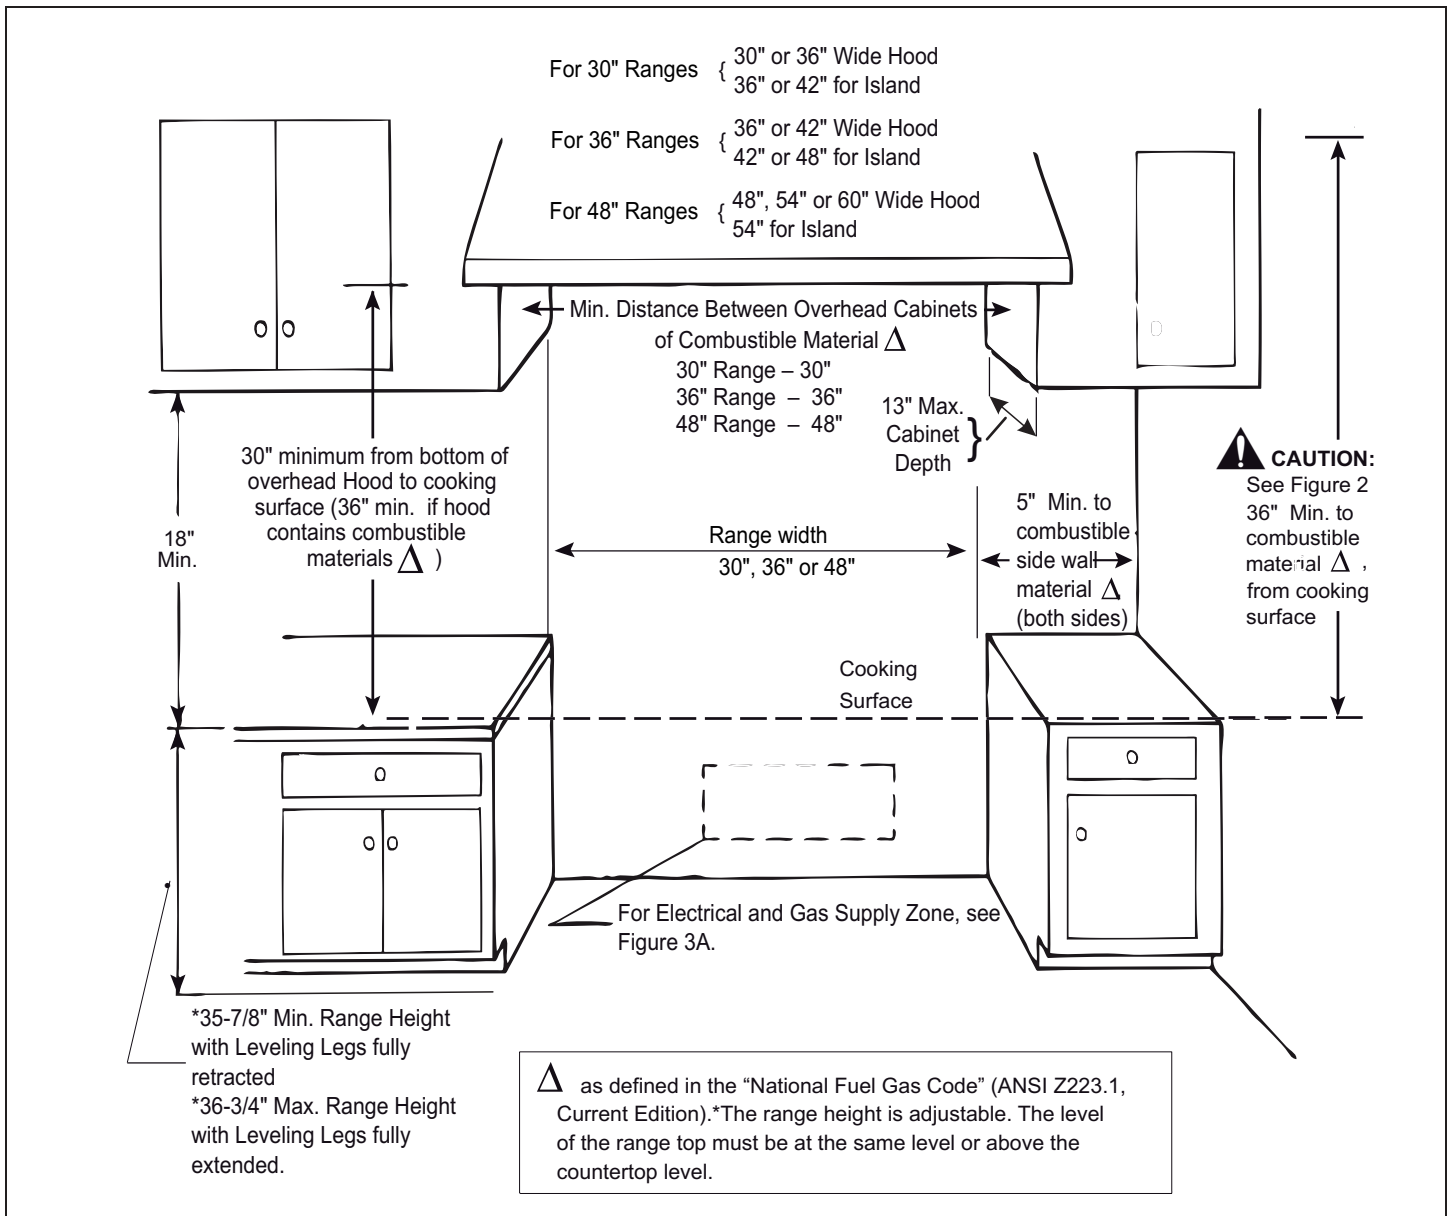

Figure 1: Cabinet Clearances
- For best smoke elimination, the lower edge of the hood should be installed 30" above the range cooking surface. (See Figure 1).
- For high output gas ranges (60,000 BTU or greater), the minimum of one (1) CFM of ventilation per 100 BTU is recommended. If the range has a griddle, add 200 CFM to the estimated blower capacity. Additional blower capacity may be required for longer duct runs.
1. The range is a free standing unit. If the unit is to be placed adjacent to cabinets, the clearances shown in Figure 1 are required. The same clearances apply to island installations, except for the overhead cabinets, which must have a space wide enough to accept the flared island hood, as indicated in Figure 1.